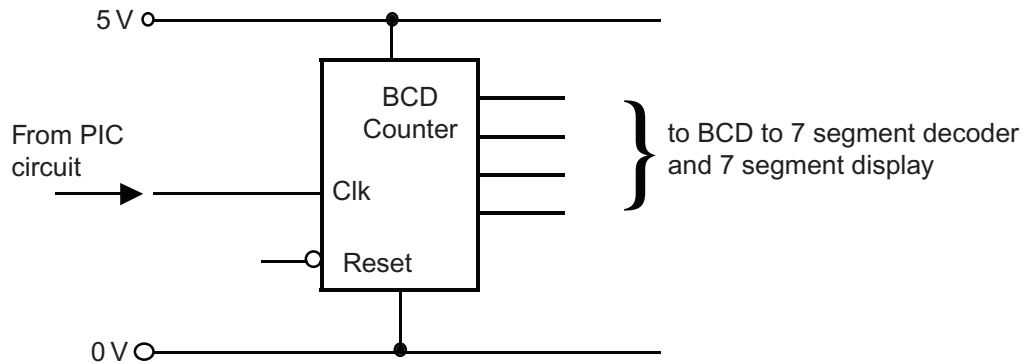

Fig. 1(d)
- (i) State the function of the BCD to 7-segment decoder in the circuit shown in **Fig. 1(d)**. [2]
- (iii) Show with the aid of a circuit diagram how the BCD counter shown in **Fig. 1(d)** can be reset. [2]